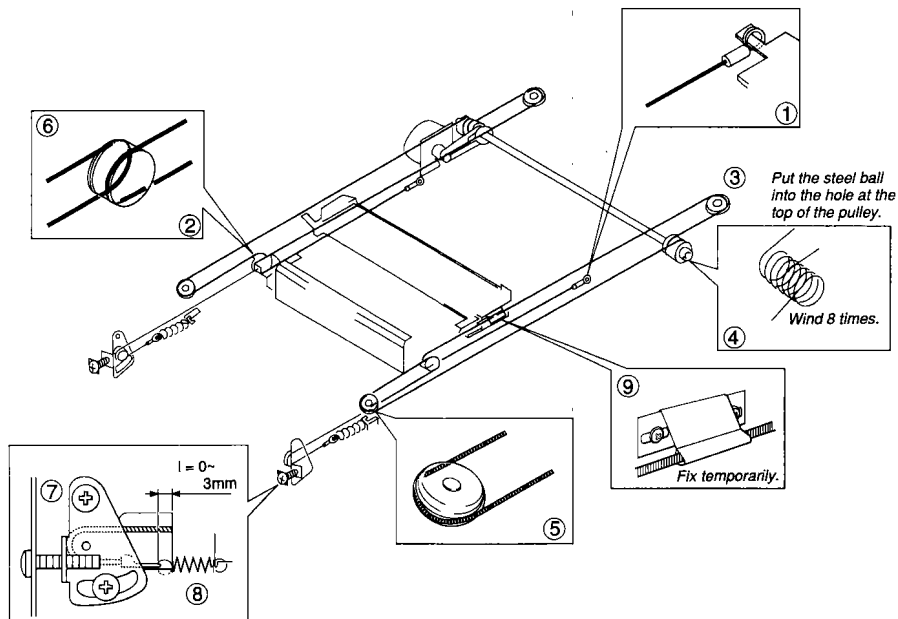

Figure 4-236
- 3) Engage the scanner cable on the pulleys and hooks as shown in Figure 4-236.